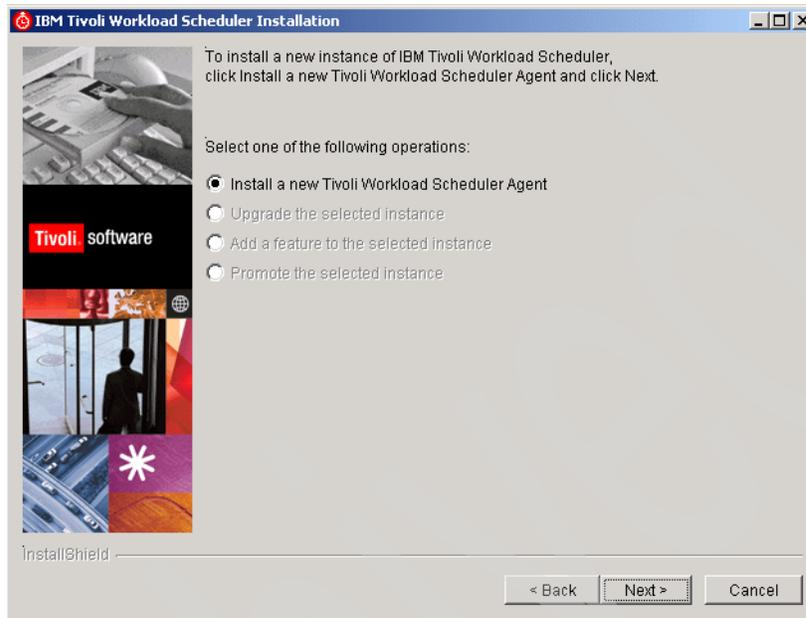

Figure 15-21 Install a new Tivoli Workload Scheduler Agent
4. The Installation window opens. Figure 15-21 shows that the product has determined that this is a new installation of IBM Tivoli Workload Scheduler.